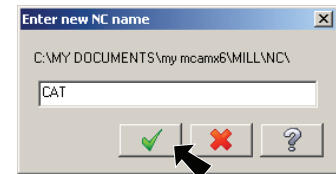

Fig. 5
Step 2. Click OK  in the NC name dialog, **Fig. 5**.